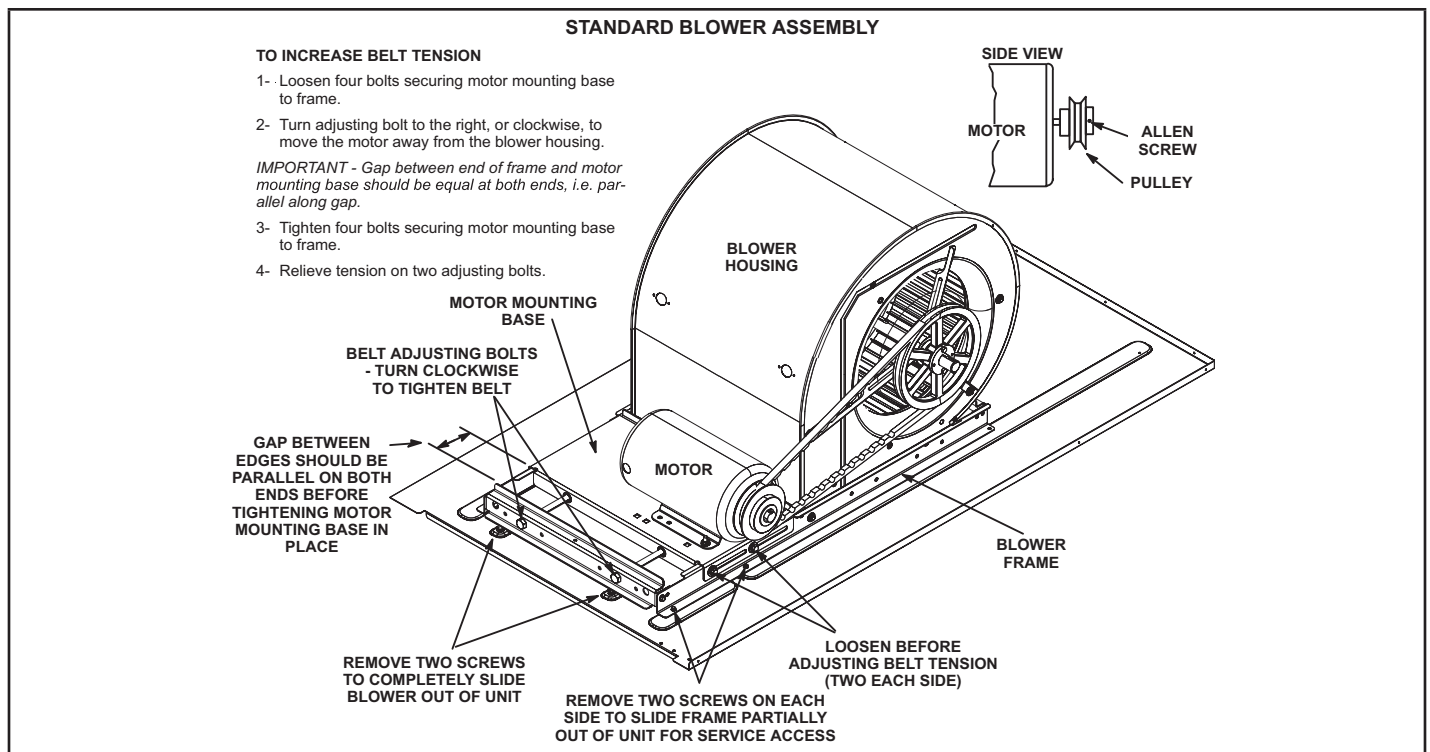

FIGURE 12
The blower compartment in all LHX units is located between the indoor coil and the outdoor coil section. The blower assembly is accessed by disconnecting the blower motor and all other plugs and removing the screws in front of the blower housing. The blower pulls out as shown in FIGURE 12.
The blower assembly is secured to a sliding base which allows the entire assembly to be pulled out of the unit. See FIGURE 12. Follow the steps below.
- 4 - The blower RPM can be adjusted at the motor pulley. Loosen Allen screw and turn adjustable pulley clockwise to increase CFM. Turn counterclockwise to decrease CFM. See FIGURE 12. Do not exceed minimum and maximum number of pulley turns as shown in TABLE 7.
- 1 - Loosen four bolts securing motor base to mounting frame. See FIGURE 12.